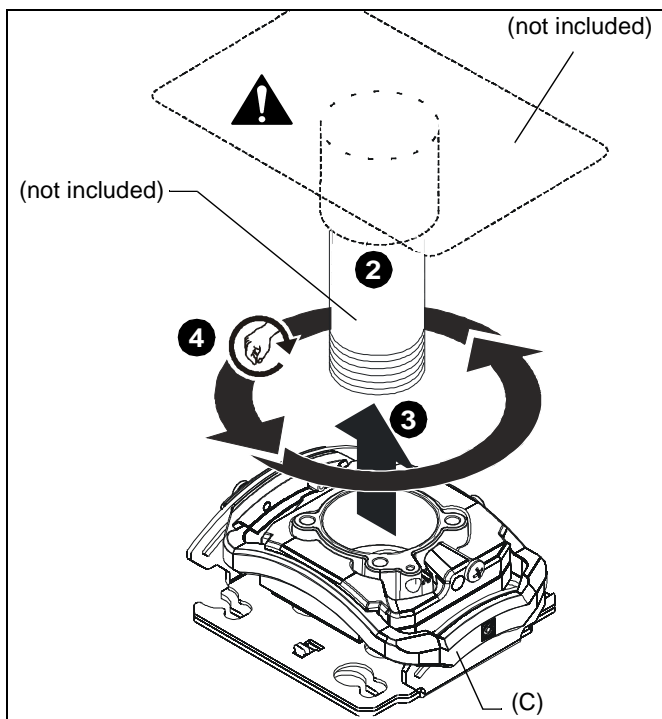

Figure 1
2. Install 1-1/2" NPT or NPSM following ANSI/ASME B1.20.1 (Schedule 40, 0.154" minimum thickness steel or aluminum - ASTM B221) threaded extension column (not included) into threaded collar (not included) until tight, with a minimum of four threads engaged. (See Figure 1)
3. Align projector mount (C) with end of NPT pipe.
4. Thread projector mount up onto pipe by turning until hand tight. (See Figure 1)